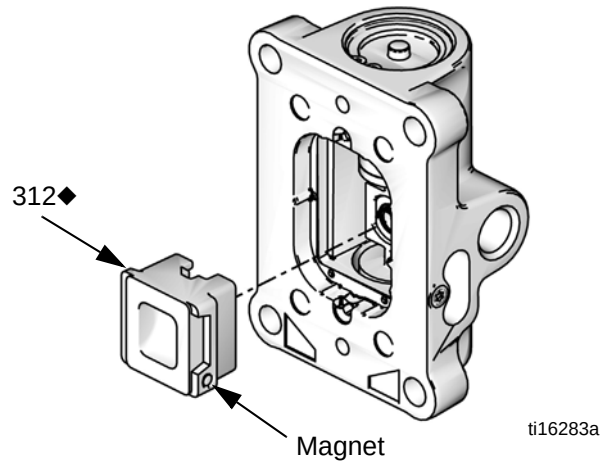

FIG. 14
7. Install the spring (311♦). Lubricate and install the pneumatic valve cup (312♦), see FIG. 14. Align the small round magnet with the pneumatic inlet.